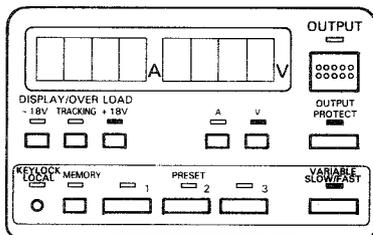

Fig. 11
- Set the LEDs as shown in Figure 11. In the Figure, the VARIABLE KEY ⑩ is selected as an output setting key.
- Press the OUTPUT KEY ⑪, to turn "ON" the output.
- Press the OUTPUT KEY as shown in Figure 11, to turn off its LED.